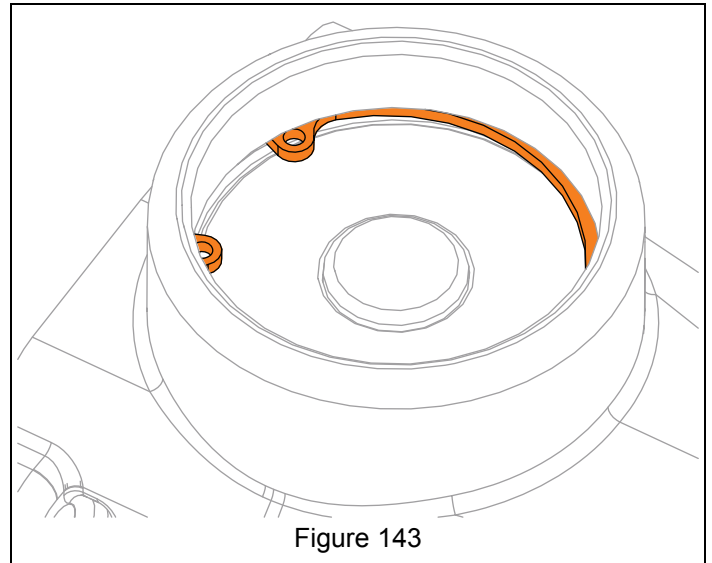

Figure 143
10. With a snap ring pliers, remove retaining ring. See Figure 143.